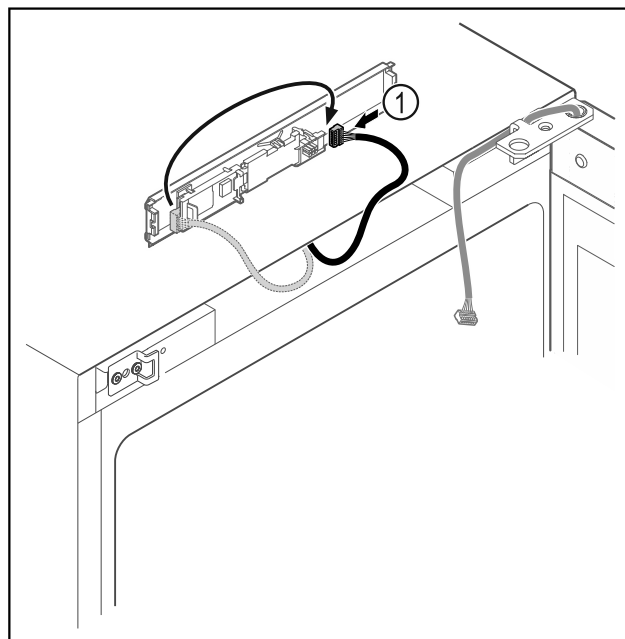

Fig. 17
- Connect the plug Fig. 17 (1) to the circuit board.